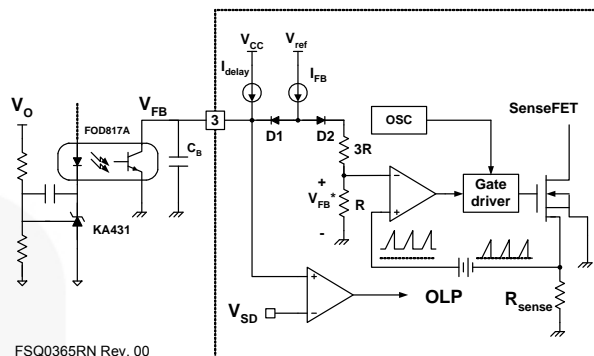

Figure 21. Pulse-Width-Modulation (PWM) Circuit
**2. Feedback Control:** FPS employs Current Mode control, as shown in Figure 21. An opto-coupler (such as FOD817A) and shunt regulator (such as KA431) are often used to implement the feedback network. Comparing the feedback voltage with the voltage across the  $R_{SENSE}$  resistor makes it possible to control the switching duty cycle. When the reference pin voltage of the shunt regulator exceeds the internal reference voltage of 2.5V, the opto-coupler LED current increases, pulling down the feedback voltage and reducing the duty cycle. This event typically occurs when input voltage is increased or output load is decreased.
**2.1 Pulse-by-Pulse Current Limit:** Because Current Mode control is employed, the peak current through the SenseFET is limited by the inverting input of PWM comparator ( $V_{FB}^*$ ), as shown in Figure 21. Assuming that the 0.9mA current source flows only through the internal resistor ( $3R + R = 2.8k\Omega$ ), the cathode voltage of diode D2 is about 2.5V. Since D1 is blocked when the feedback voltage ( $V_{FB}$ ) exceeds 2.5V, the maximum voltage of the cathode of D2 is clamped at this voltage, clamping  $V_{FB}^*$ . Therefore, the peak value of the current through the SenseFET is limited.